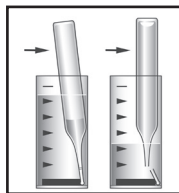

Figure 2
3. Place the CHEMet ampoule, tip first, into the sample cup. Snap the tip. The ampoule will fill leaving a bubble for mixing (fig. 2).